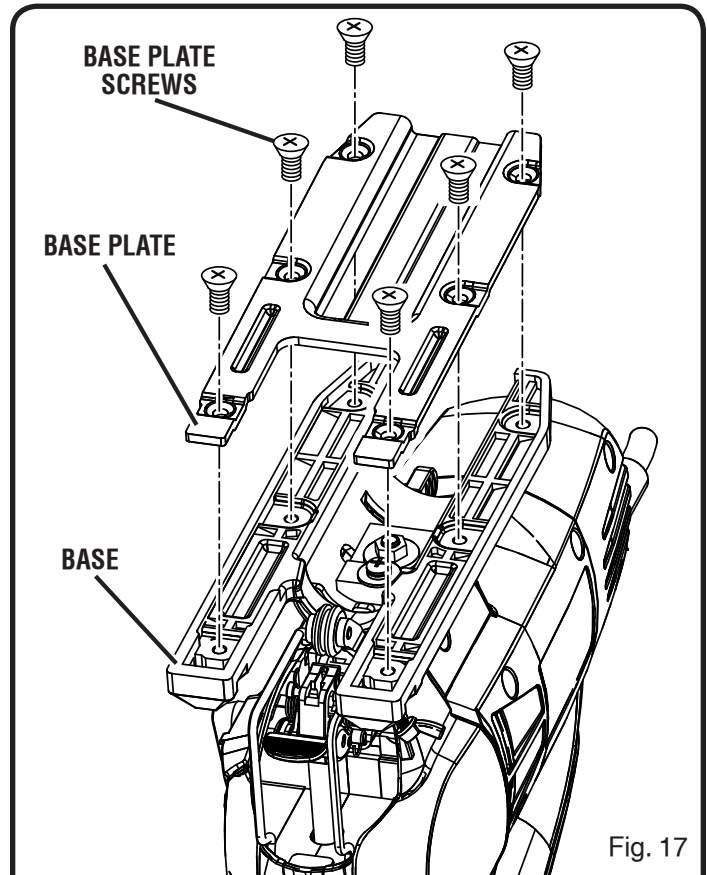

Fig. 17
See Figures 17 and 18.
- Remove the base plate screws and base plate by removing the six base screws to expose the adjusting nut. See figure 17.